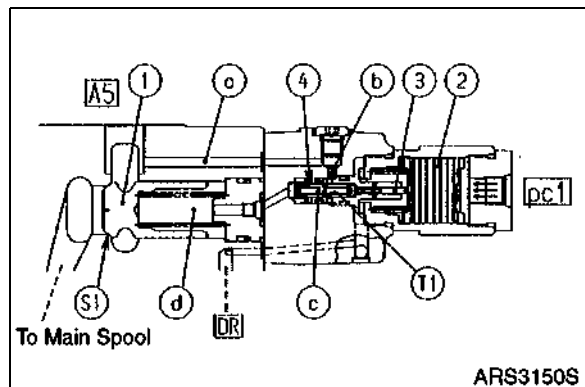

Figure 19
2. Cut off condition of passage of port A5 (Figure 19) and spring chamber